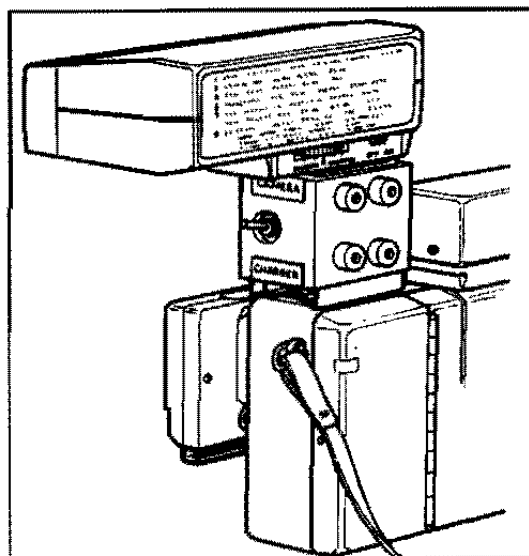

FIG. 2-8 TEST SETUP
1. Connect the electronic flash (with the switch in the "OFF" position) to the 360 Meter Connector Block and then slide the block onto the camera (Figure 2-8).